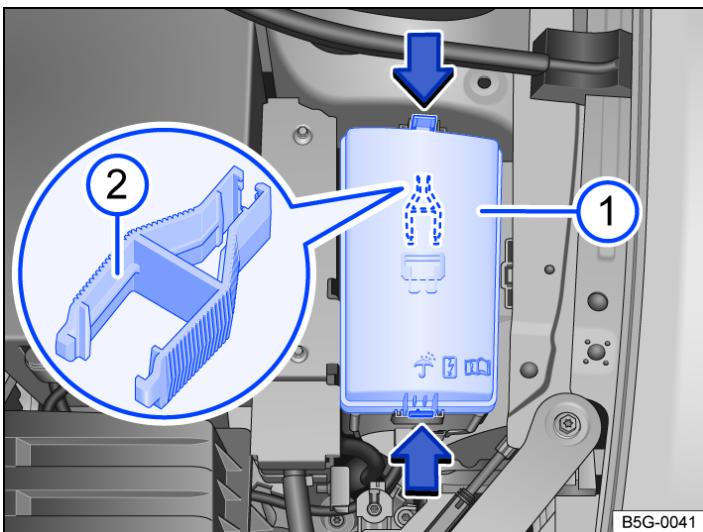

Fig. 1 In the engine compartment: cover 1 of the fuse box including plastic pliers 2.
- Press the locking button in the direction of the arrow → *Fig. 1* (Arrows), in order to unlock the cover of the fuse box → *Fig. 1* 1.